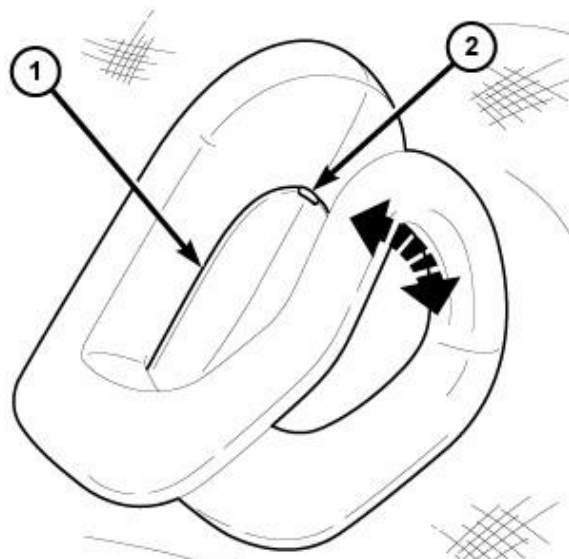

Figure 9 – Coat Hook
14. Using a small flat bladed tool, open the coat hook screw cover (2) then remove the screw and coat hook (Figure 9).
35. Position the coat hooks (5) onto the headliner and install the screws tightening securely into the mounting clips then close the screw cap fully (Figure 9).